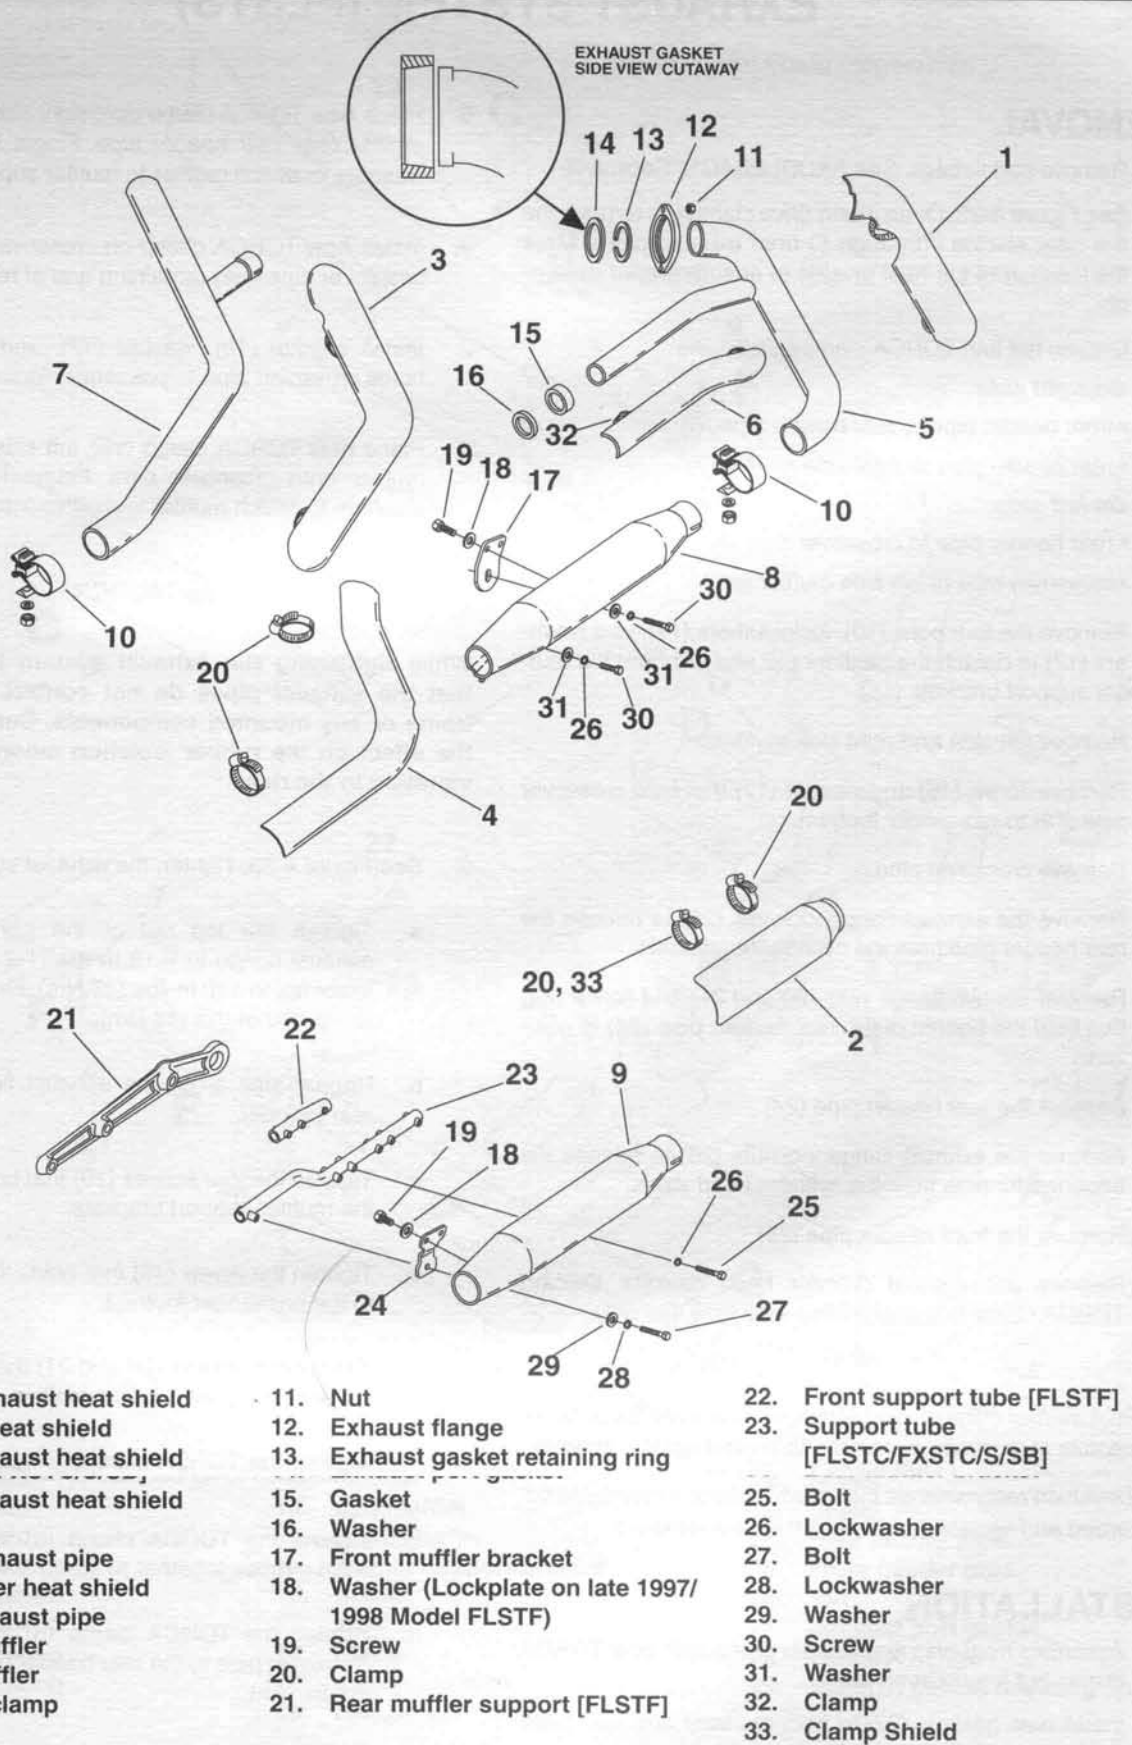

Figure 4-22. Shorty Dual Exhaust System
2. See Figure 4-22. Remove nuts (11) from front and rear cylinder head exhaust studs.
See inset in Figure 4-22. Replacement cylinder head exhaust gaskets are tapered internally. Be sure the thin end goes over the exhaust pipe.